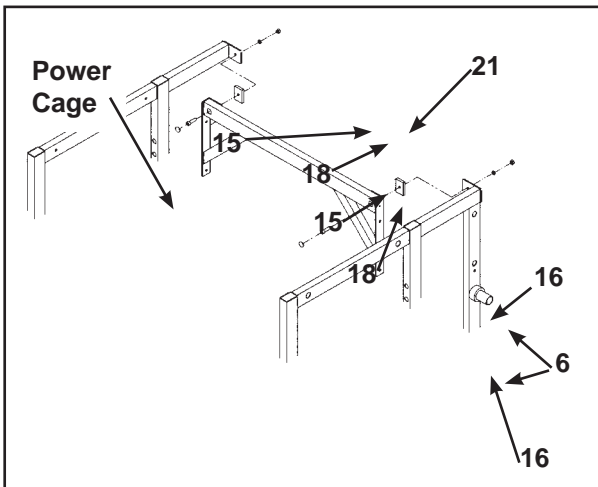

Figure 9
- E. Position center brace (#21) as shown in Figure 9.
- F. Attach center brace (#21) to Power Cage using two SHCS .50-13 x 1.00 (#16) and two plastic inserts (#6) two hex nuts .50-13 (#15) and two lock washers .50 (#18). Do not tighten hardware at this time. See Figure 9.